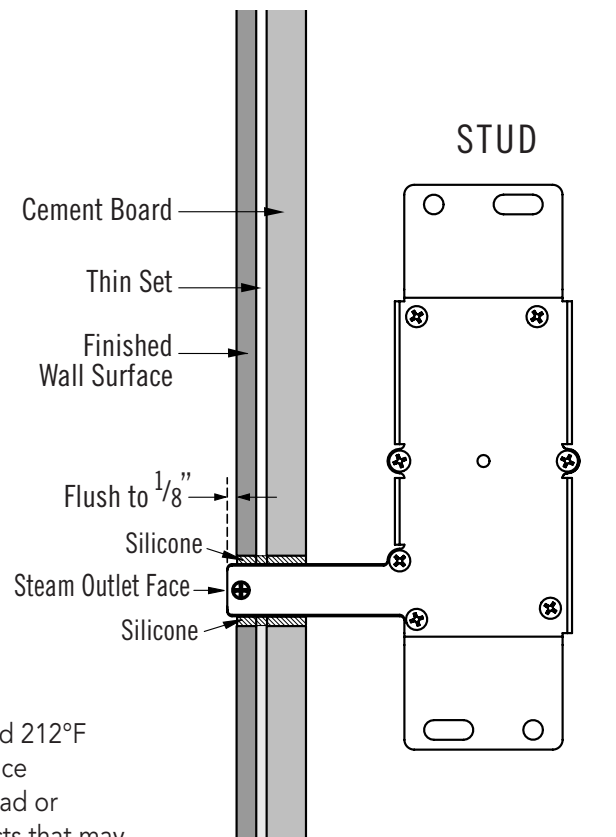

Figure 4
STEP 3. Determine the location of the finished wall surface. Mount the steam head between two studs using the four slotted holes to position the steam outlet face to be flush or extend 1/8" from the finished wall surface (see Fig. 4).
STEP 8. After the finished wall surface has been installed use high temperature caulking around the steam outlet as required to make a waterproof seal. (see Fig. 4)